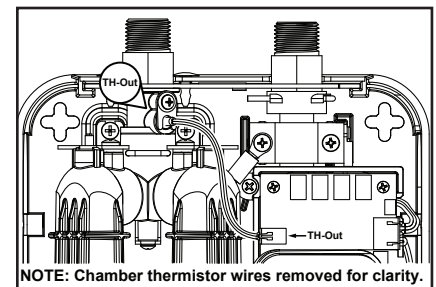

Figure 23 - Proper outlet thermistor installation.
- 4** Unplug the thermistor's wire connector from the control board. See Figure 23.